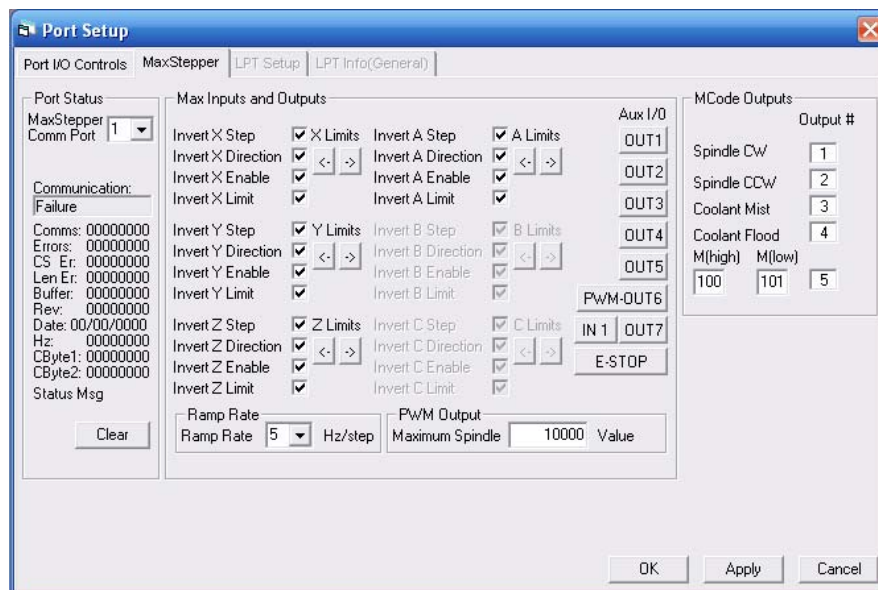

Figure 2
4. Select the **MaxStepper** tab (Figure 2).